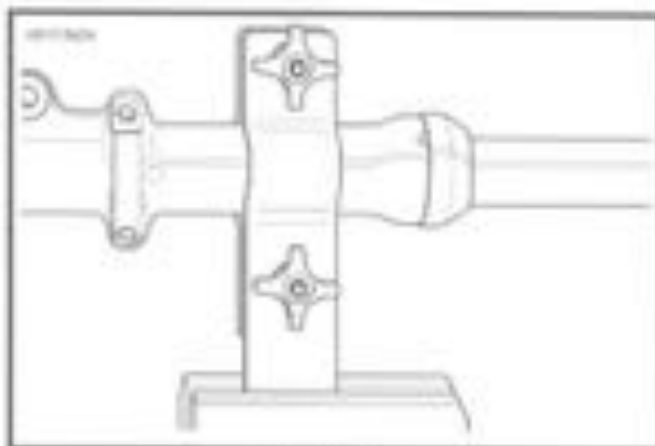

Figure 2-65.
8. See Figure 2-65 and 2-66. Position fork slider in use using fork tube holder (HD-41177) to avoid damage.
9. See Figure 2-65. Remove the socket head bolt.